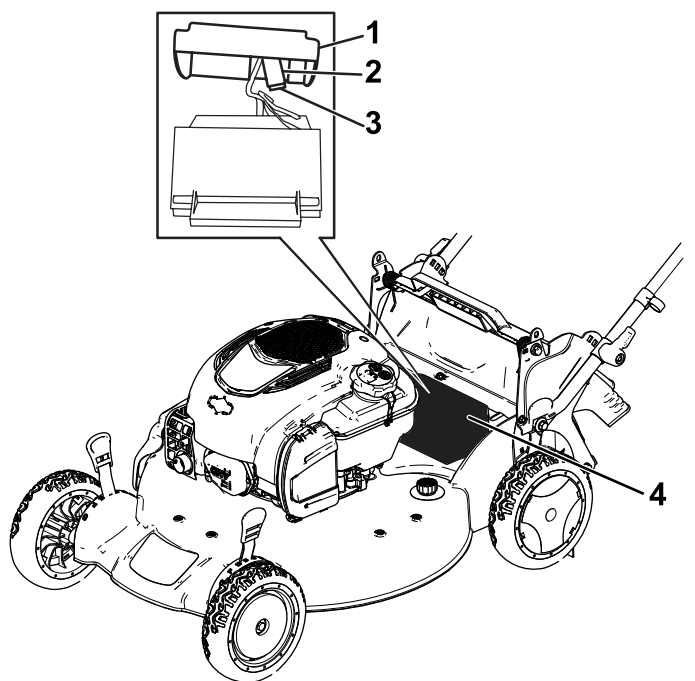

Figure 30
1. Remove the cover from the battery compartment (Figure 30).
2. Pull out the battery and locate the fuse (Figure 30).
3. Replace the fuse in the fuse holder (Figure 30).
4. Install the cover over the battery compartment (Figure 30).